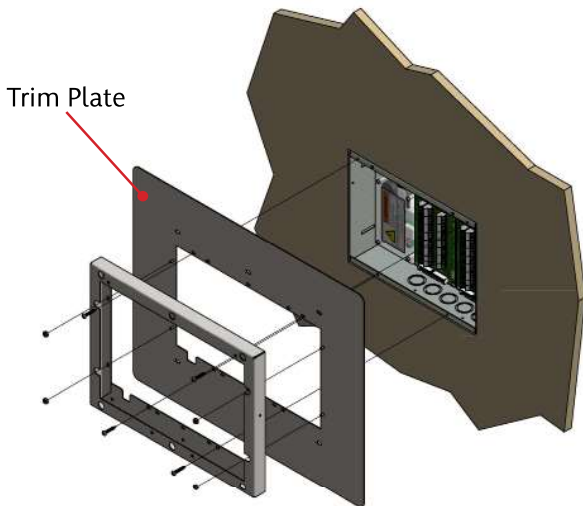

Figure 209: Trim Plate Assembly
2. Mount the Front Panel assembly to the trim ring using the countersink sheet metal screws provided on the trim ring (Figure 209).